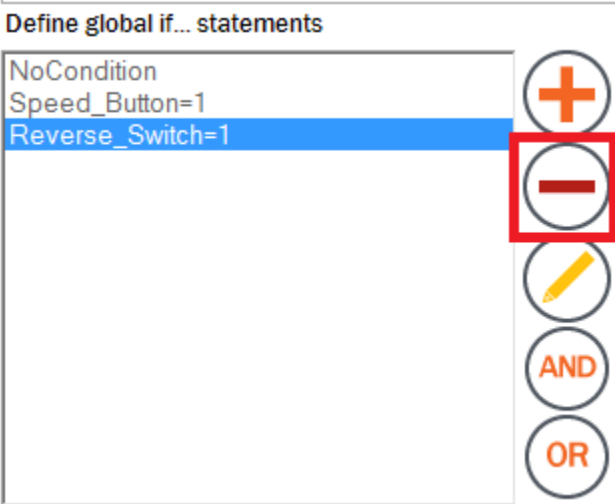

Figure 180. Delete global condition
- Conditions are removed by selecting the condition and clicking the Delete button (Figure 180).